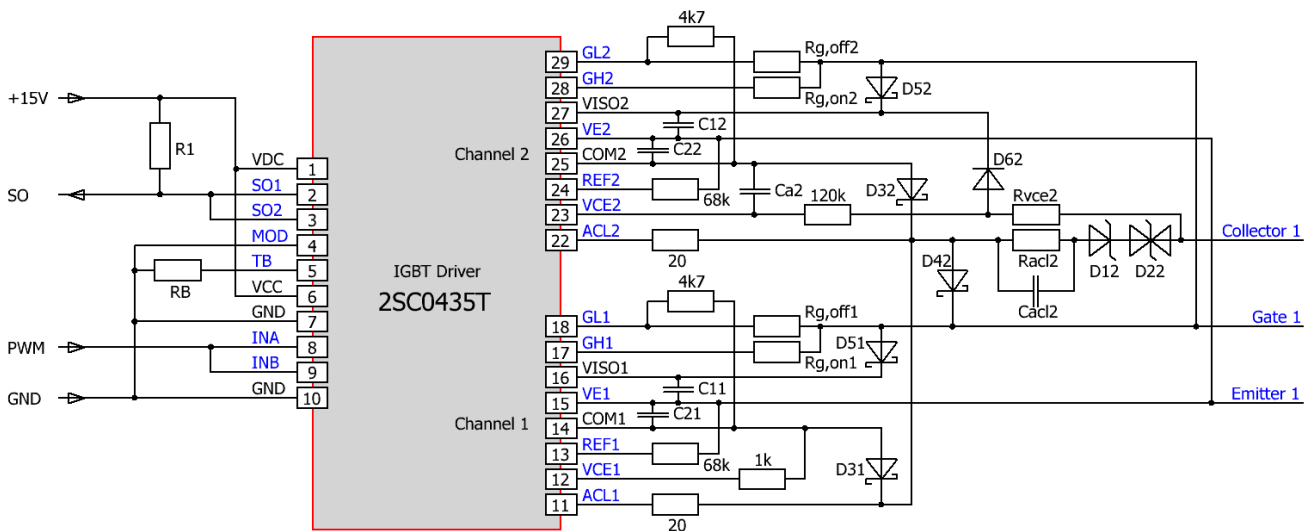

Fig. 22 Paralleling a dual-channel driver to a single output (example with 2SC0435T)
It is recommended to proceed in the following way and as shown in Fig. 22 to merge both driver channels to one logical channel (excluding 2SC0108T):
- The active clamping controls the turn-off driver stages in the driver core at turn-off. Each of the Advanced Active Clamping pins  $ACL_x$  of both channels must therefore be connected to a  $20\Omega$  resistor according to Fig. 22 (The  $20\Omega$  resistors as well as  $D_{3x}$  must be omitted on 2SC0635T, as these components are already available on the driver core).